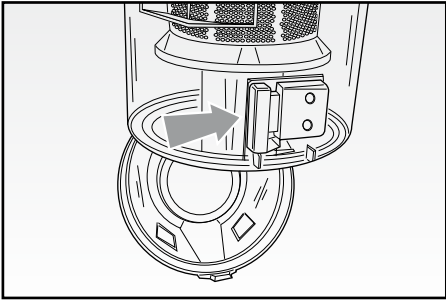

Fig. 7
- Empty the dust container (A), opening the lid with the release button (Fig. 7).